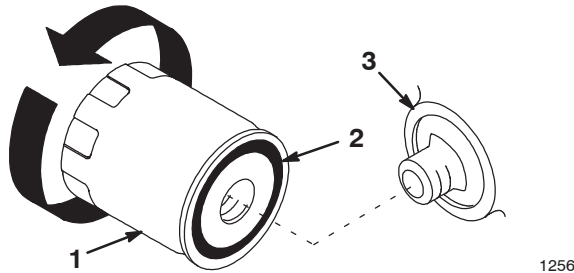

Figure 16
11. Change the oil filter, if necessary (Fig. 16).
2. Remove the old filter and wipe the filter adapter (Fig. 16) gasket surface.
3. Apply a thin coat of new oil to the rubber gasket on the replacement filter (Fig. 16).
4. Install the replacement oil filter to the filter adapter. Turn the oil filter clockwise until the rubber gasket contacts the filter adapter; then tighten the filter an additional 1/2 to 3/4 turn (Fig. 16).